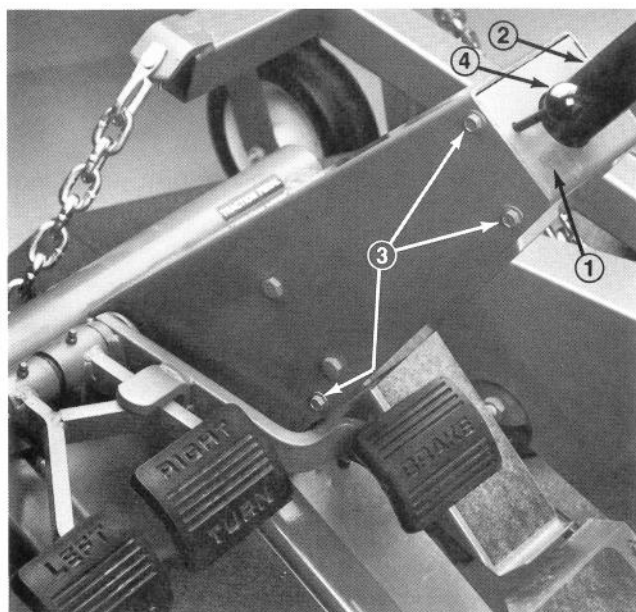

Figure 3
8. Slide steering column cover onto steering post and parking brake rod (Fig. 3). Mount the cover to inside of steering tower with six self tapping screws (1/4-20 x 5/8 in.) (Fig. 3). Install the knob on parking brake rod.